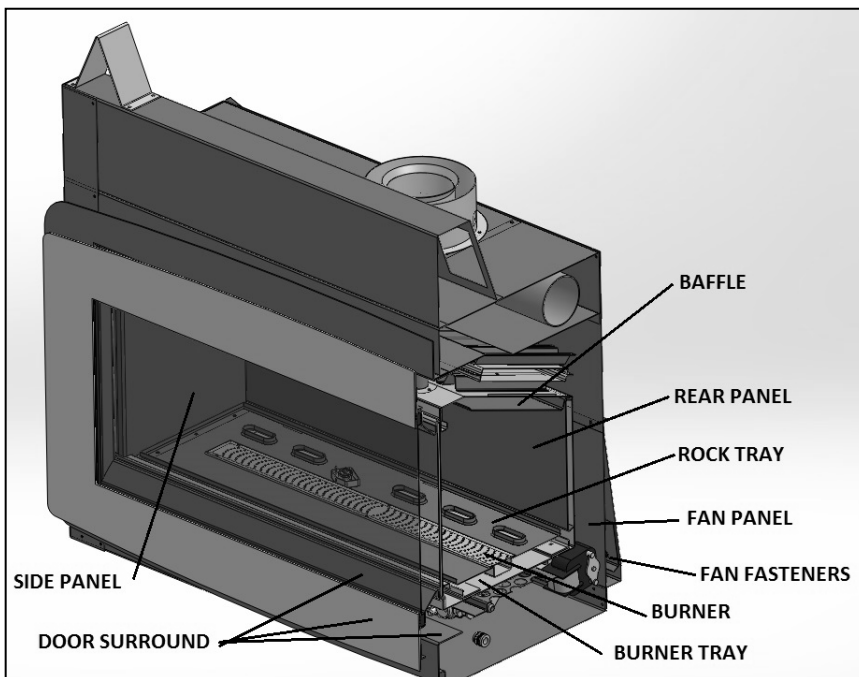

Figure 38: Fan Installation/Removal
1. Remove door surround and glass frame with the glass as seen in Figure 38.
1. Remove fan panel at the rear side of the fireplace as seen in Figure 38.